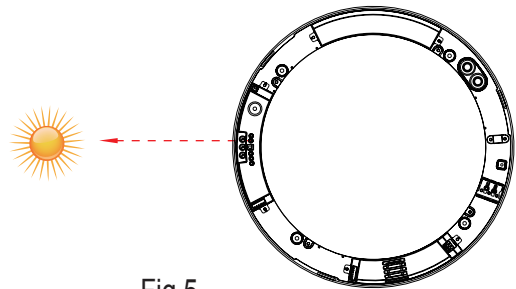

Fig.5
**NOTE:** Turn the optical sensor to where the sunshine is sufficient(as fig.5).